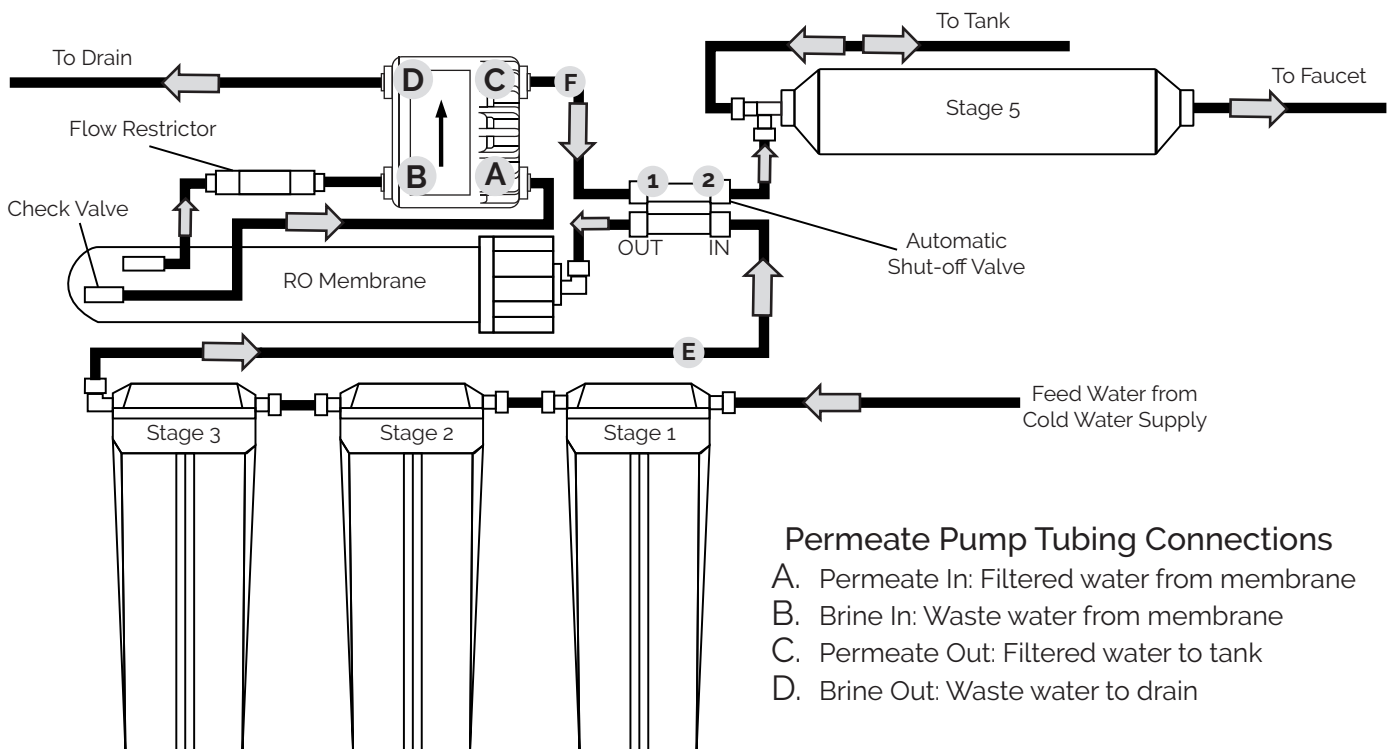

Fig. 2
- III. **Connect Automatic Shut-off Valve:** See Fig. 2. The Automatic Shut-off Valve needs to be installed at the permeate IN/OUT side of the pump. Connect the tubing from Stage-3 filter (Line E) to the IN port on the Automatic Shut-off Valve. Using additional tubing, connect the Out port on the Automatic Shut-off Valve to the RO Membrane Housing inlet. Connect the tubing from the Permeate Out port on the pump (Line F) to the Automatic Shut-off Valve (Port 1). Using additional tubing, connect the Automatic Shut-off Valve (Port 2) to the Stage-5 filter tee-connection.